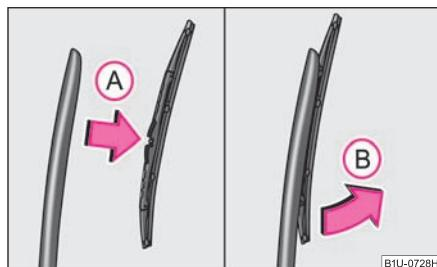

Fig. 52 Wiper blade for rear window
- Fold the window wiper arm away **⇒ fig. 52.**